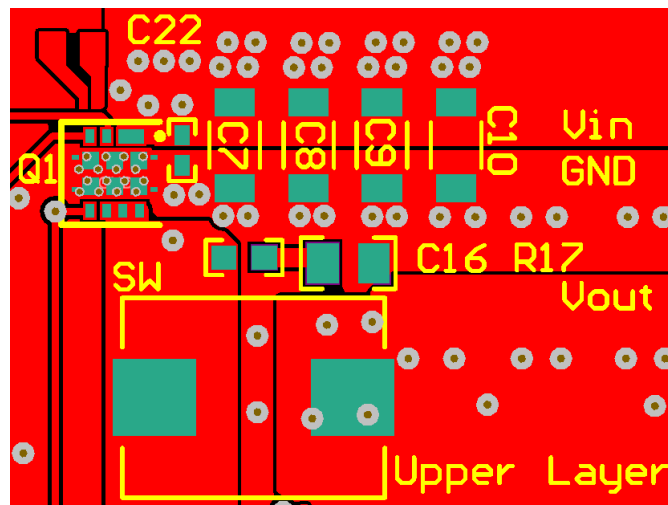
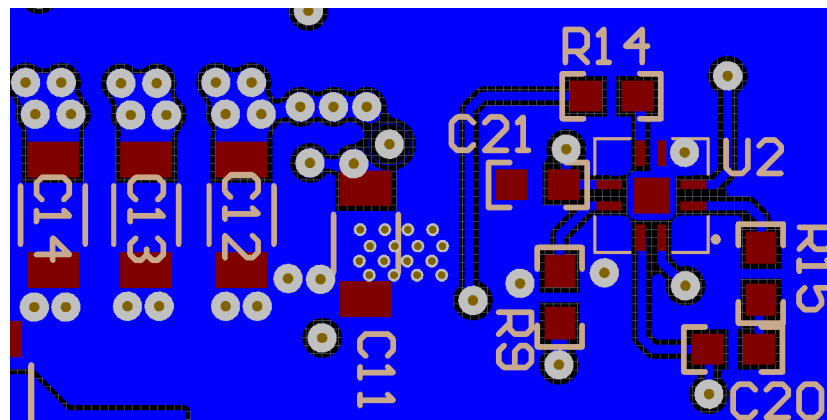

Figure 33. Recommended PCB Layout (Top Down View)
Figure 34. Recommended PCB Layout (Bottom View)
- The placement of the input capacitors relative to the power block's VIN and PGND pins should have the highest priority during the component placement routine. It is critical to minimize these node lengths. As such, ceramic input capacitors need to be placed as close as possible to the VIN and PGND pins (see Figure 33). It is recommended that one 3.3-nF (or similar), 0402, 50-V ceramic capacitor be placed on the top side of the board as close as possible to VIN and PGND pins. In addition, a minimum of 40 μF of bulk ceramic capacitance should be placed as close as possible to the power block in a design. For high-density design, some of these ceramic capacitors can be placed on the bottom layer of PCB with appropriate number of vias interconnecting both layers.
- The switching node of the output inductor should be placed relatively close to the power block VSW pins. Minimizing the node length between these two components will reduce the PCB conduction losses and actually reduce the switching noise level. In the event the switch node waveform exhibits ringing that reaches undesirable levels, the use of a boost resistor or RC snubber can be an effective way to easily reduce the peak ring level. The recommended boost resistor value will range between 1.0 Ω to 4.7 Ω depending on the output characteristics of driver IC used in conjunction with the power block. The RC snubber values can range from 0.5 Ω to 2.2 Ω for the R and 330 pF to 2200 pF for the C. Please refer to Snubber Circuits: Theory, Design and Application (SLUP100) for more details on how to properly tune the RC snubber values. The RC snubber should be placed as close as possible to the VSW node and PGND (see Figure 33 and Figure 34).
(1) Keong W. Kam, David Pommerenke, "EMI Analysis Methods for Synchronous Buck Converter EMI Root Cause Analysis", University of Missouri – Rolla
- Use the smallest drill size allowed in your design. The examples in Figure 33 and Figure 34 use vias with a 10-mil drill hole and a 16-mil capture pad.